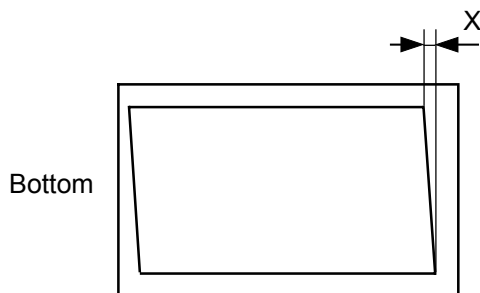
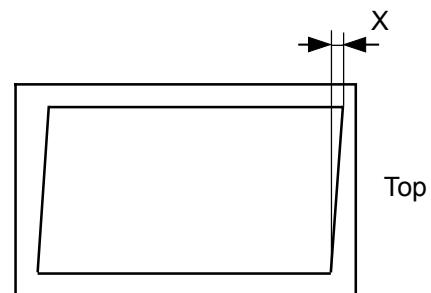

Figure 1
Figure 2
- (1) Set B4-size paper in the paper-feeding tray. Using the AF unit, create an original-size master with the Test Chart No. 15, and then print.
- (2) Lay the print on top of the original with the 310-mm lines at the side parallel, and check that the skew (X) of the leading 180-mm line is within 2 mm.
- (3) If the skew is outside the specified parameters, adjust as follows.
- (4) Remove the screw (bind, M4 x 6) on the AF mount plate [A], rotate through 180° to open the AF unit to 90°, and then loosen the two AF unit retaining screws (bind, M4 x 10).
- (5) Loosen the nut [B] on the hinge assembly (right), and turn the AF slide screw [C] (clockwise if as in Figure 2, and counterclockwise if as in Figure 1) to adjust dimension T. Turning the screw clockwise increases dimension T.
- (6) Tighten the two AF unit retaining screws, and then tighten the nuts with the AF slide screw secured.
- (7) Make a master and print, and repeat the procedure from the beginning if the skew is still outside the specified parameters.